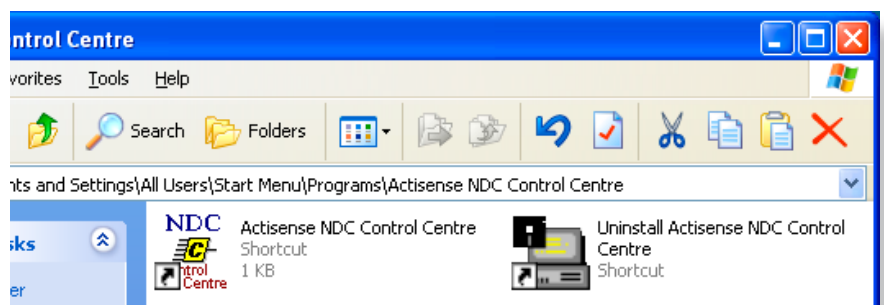
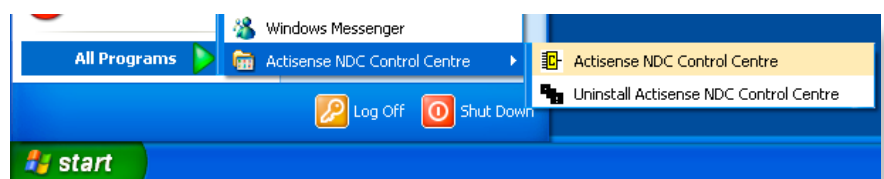

Figure 7 - 'Start Menu' Short-cuts
Figure 8 – 'Start Menu' Short-cuts
5. From the 'Start Menu' navigate to the 'Actisense' directory and double click on the 'Program' icon (refer to **"Figure 7 - 'Start Menu' Short-cuts"** and **"Figure 8 – 'Start Menu' Short-cuts"**).
1. To uninstall the program, from the 'Start Menu' navigate to the 'Actisense' directory and double click on the 'Uninstall' icon (refer to "Figure 7 - 'Start Menu' Shortcuts" on page 14 and "Figure 8 - 'Start Menu' Shortcuts" on page 14).